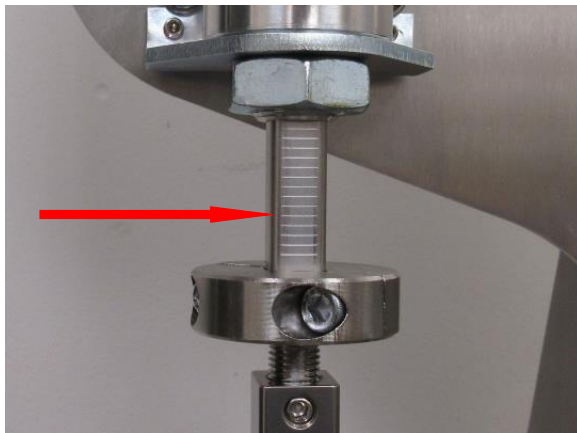

Figure 3
- The graduations on the cylinders represent approximately 0.072 of an inch. (**Figure 3**)
- Re-adjust the stop collars to the desired opening you need and tighten the bolts. **(Figure 3)** See Section 3.2 for details.